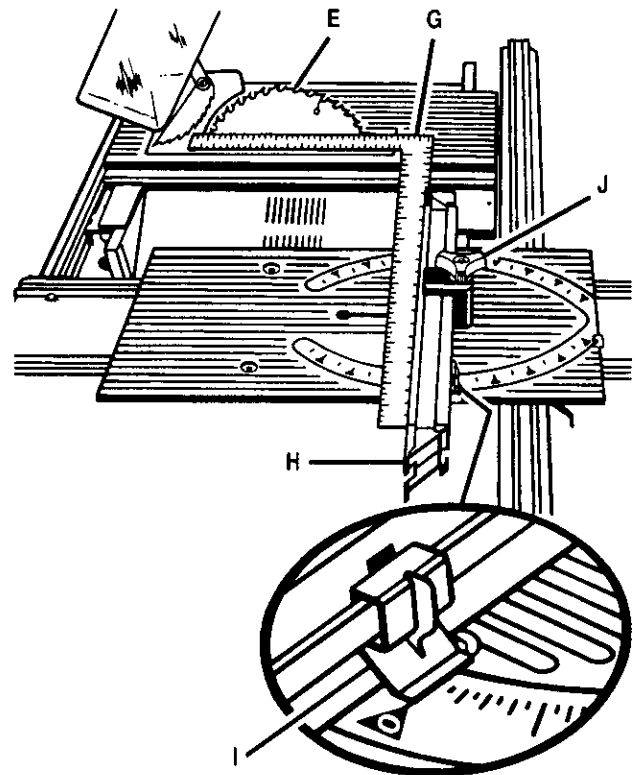

Figure 56
- Set the miter fence (H) at 0° as shown in figure 56. Miter indicator (I) should be set precisely on 0° and secured in place with adjusting clamp (J).
- Place a framing square (G) firmly against the miter fence (H), with the other side against the blade (E). See Figure 56.